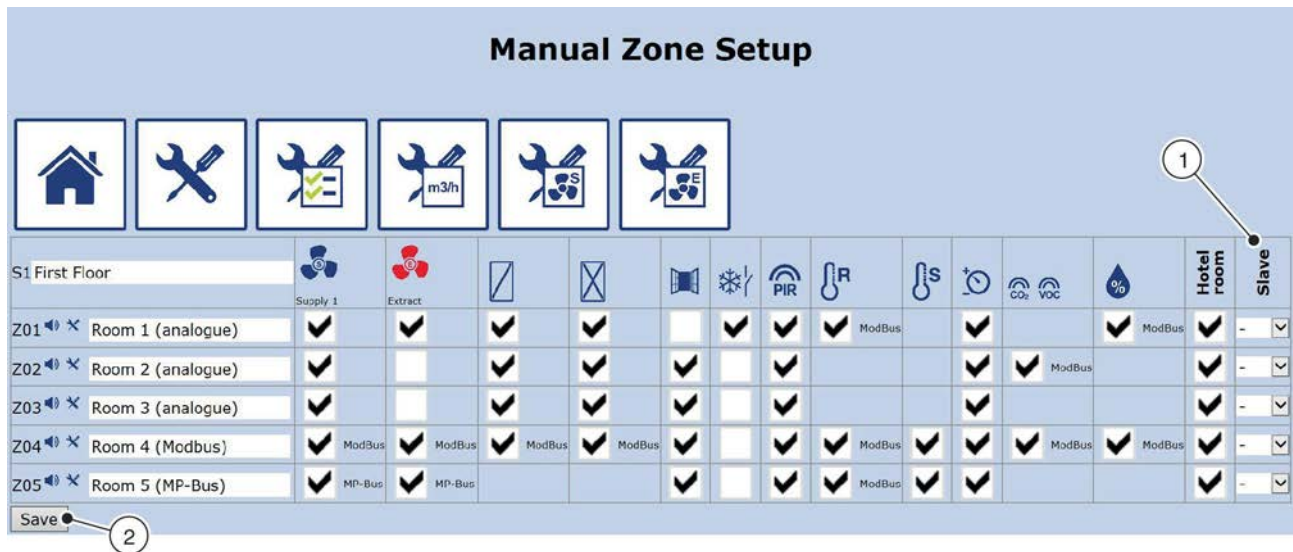

Fig. 39: Zone grouping
The grouping function (Fig. 39 /1) allows you to assign several zone modules to a group. Grouping is recommended if there are several zone modules installed in a larger section or room and if you want to control them simultaneously with one control panel. The 'Manual Zone Setup' screen allows you to select the leading zone module from a drop down list. Once you have defined the leading zone module, all actuators for all zone modules in the group act according to the leading zone module. Also, if you have defined a leading zone module, only the control panel for that module remains active; the control panels for the other zone modules are not active. All zone modules in a group are controlled with the control panel for the leading zone module.
- ⇒ The 'Zone Setup' screen (Fig. 39) displays.
4. ▶ Go to the drop down menu for a zone in the 'Slave' column (Fig. 39 /1) and select the leading zone module.
5. ▶ Click on 'Save' (Fig. 39 /2).